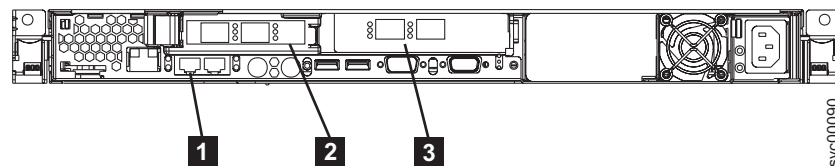

Figure 41. Connectors at the back of the SAN Volume Controller
1. Connect the Ethernet cable to the Ethernet port **1**. See Figure 41.
2. Connect the fibre-channel cables to the fibre-channel ports **2**, **3** and **4** as required by the user's configuration. See Figure 41 on page 69. These numbers correspond to the numbers that are shown in the user's cable connection table.